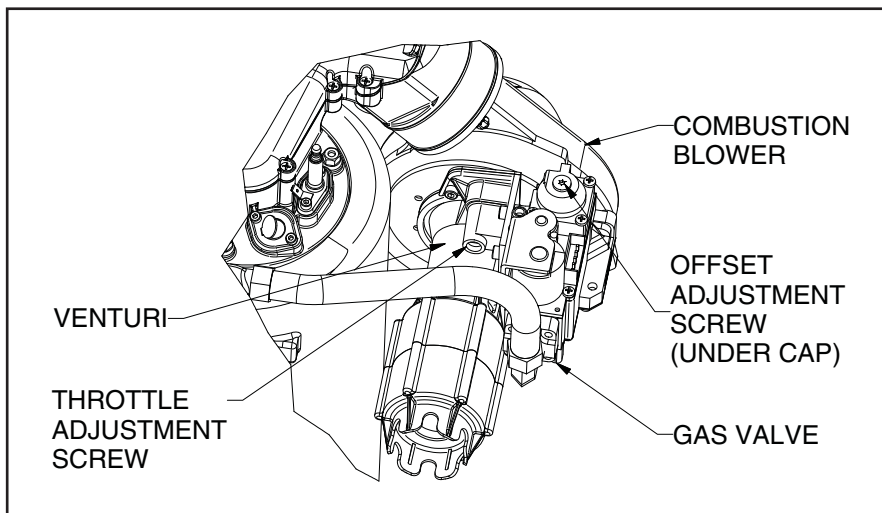

Figure 26d. Gas valve and venturi adjustment.
2. If the CO₂ is not within the range specified for that gas type at the maximum firing rate, then adjust the venturi throttle to the nominal value shown in Table 6. Turn the throttle clockwise to decrease the CO₂ value. Turn the throttle counter-clockwise to increase the CO₂ value. See Figure 26d.
2. If the CO₂ is not within the range specified for that gas type at the minimum firing rate, then adjust the gas valve offset to the nominal value shown in Table 6. (See Figure 26d) for the location of the offset adjustment. Remove the cap that covers the offset screw.